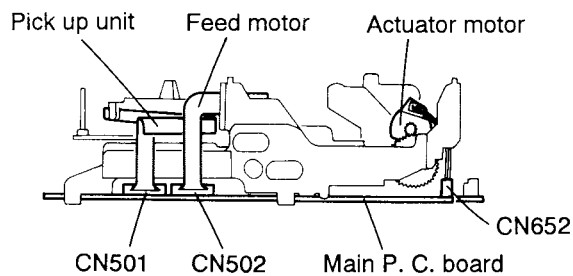

Fig. 4-11
2. After turning the body over to the left side, the flexible card wire outgoing from the pickup unit should be disconnected from the connector CN501 on the main P.C. board (See Fig. 4-11).
3. After turning the body over to the left side, the flexible card wire outgoing from the feed motor should be disconnected from the connector CN502 on the main P.C. board (See Fig. 4-11).
4. After turning the body over to the left side, the red and black #2PIN connector outgoing from the actuator motor should be disconnected from the connector CN652 on the main P.C. board (See Fig. 4-11).